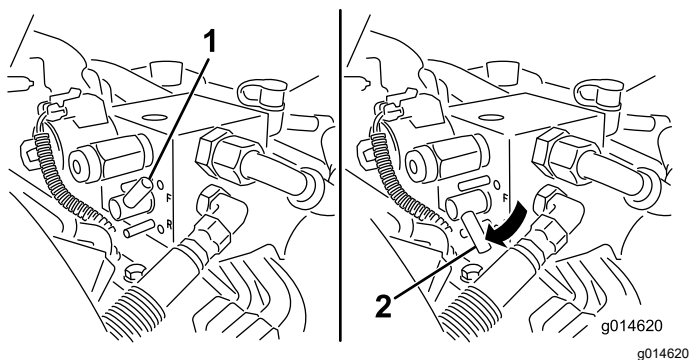

Figure 57
5. Rotate the backlap lever to the REVERSE (R) position (Figure 57).